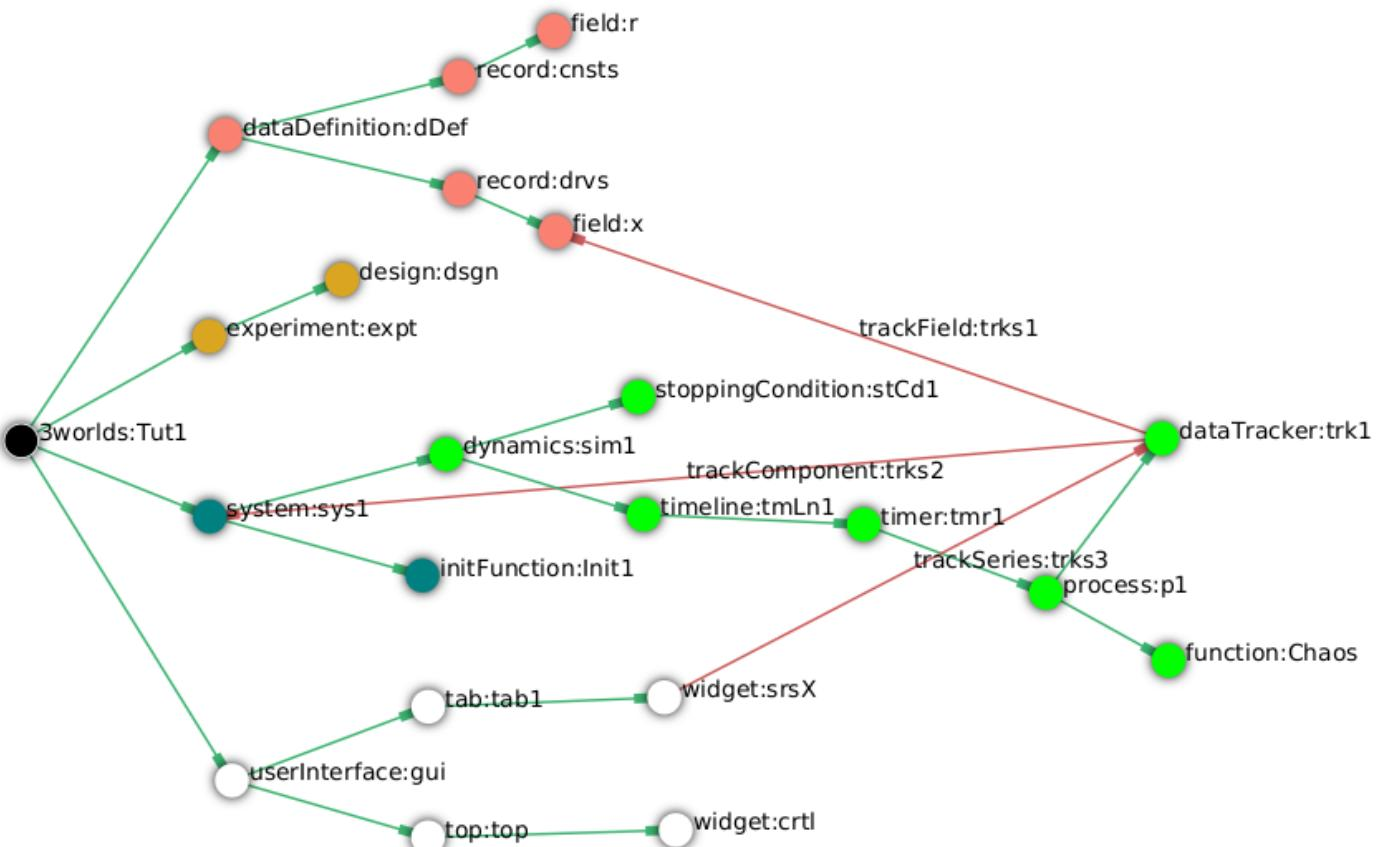

Figure 32. The specification graph for Tutorial 1.
21. Select this new node and in the properties editor, set the value of `stCd1#endTime` to 100 (Figure 32).